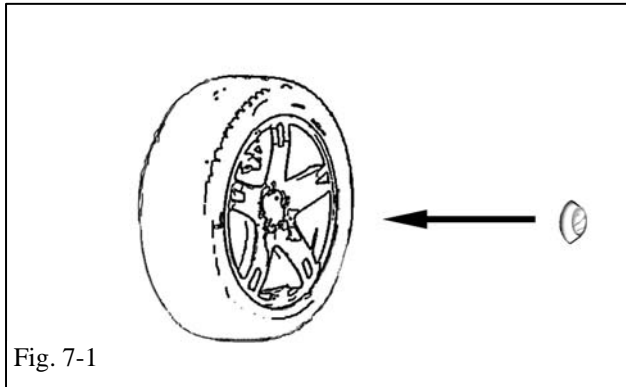

Fig. 7-1
- (a) Install caps into wheels as shown in Fig. 7-1 & 7-2. Be sure to orient the TRD text relative to the valve hole as shown. The 5 radial marks on cap should line up with the 5 lug holes.